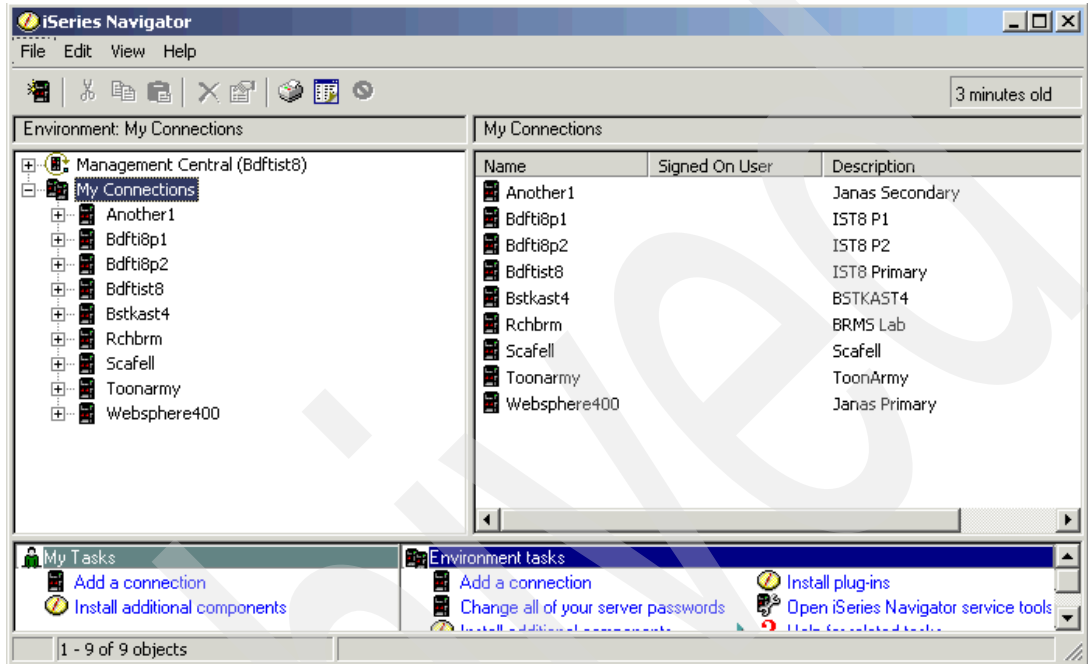

Figure 17-6 System i Navigator initial window
1. Start System i Navigator. Figure 17-6 shows the initial window.